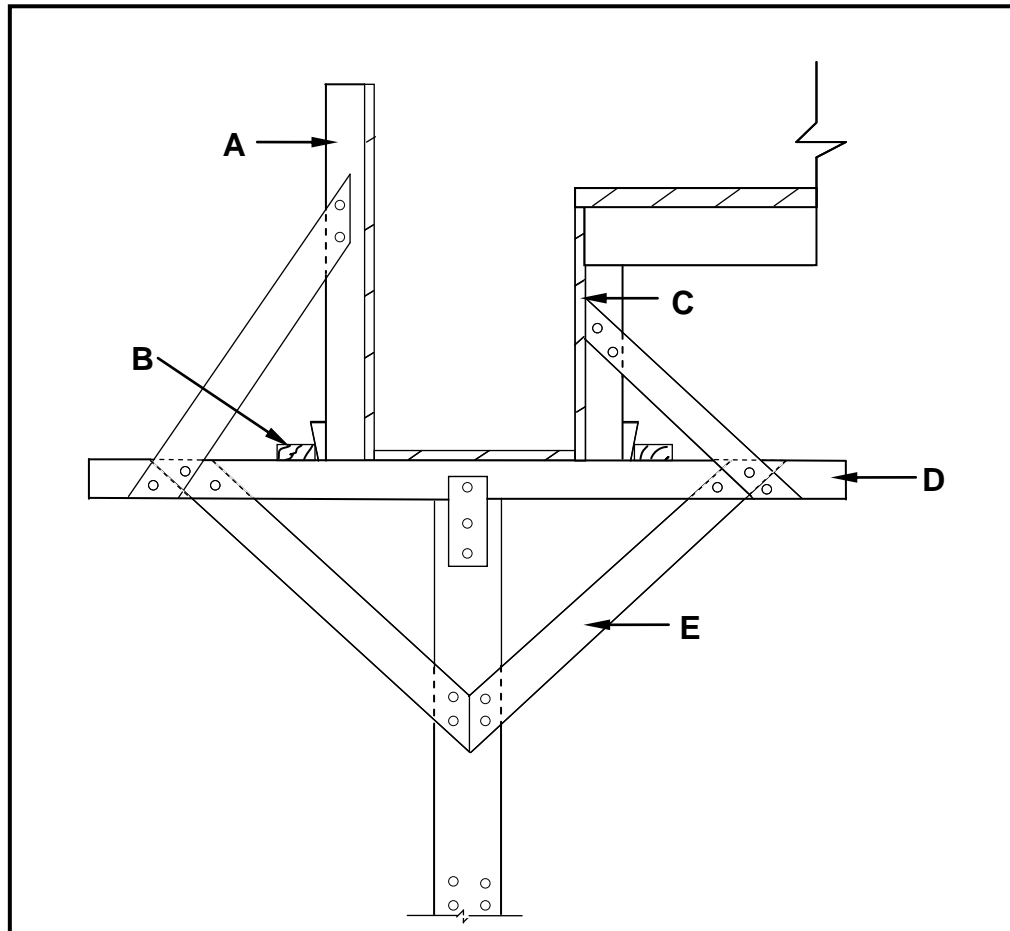

FIGURE 4.6
4.6 FIGURE 4.6 below shows formwork in a construction process.